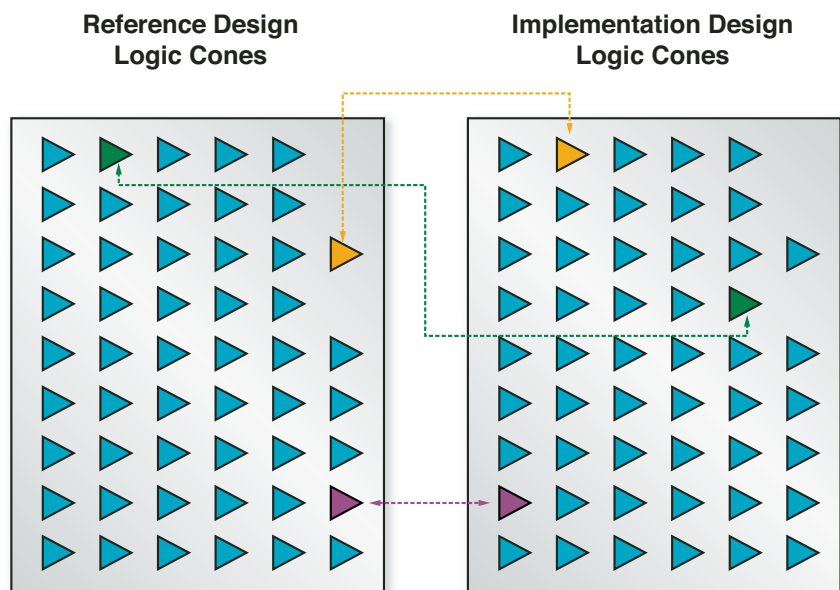

Figure 2 – Matched (or mapped) compare points between design versions
2. Match: using a variety of techniques, the equivalence checker maps corresponding compare points between the implementation and reference designs (Figure 2). The fastest of these techniques is name-based matching, but differences between the RTL and gate-level representations can lead to highly dissimilar names, making advanced matching algorithms necessary. Registers may have been duplicated, merged, or otherwise optimized away such that the logic cones between design versions may be quite different, making the matching process far from simple.